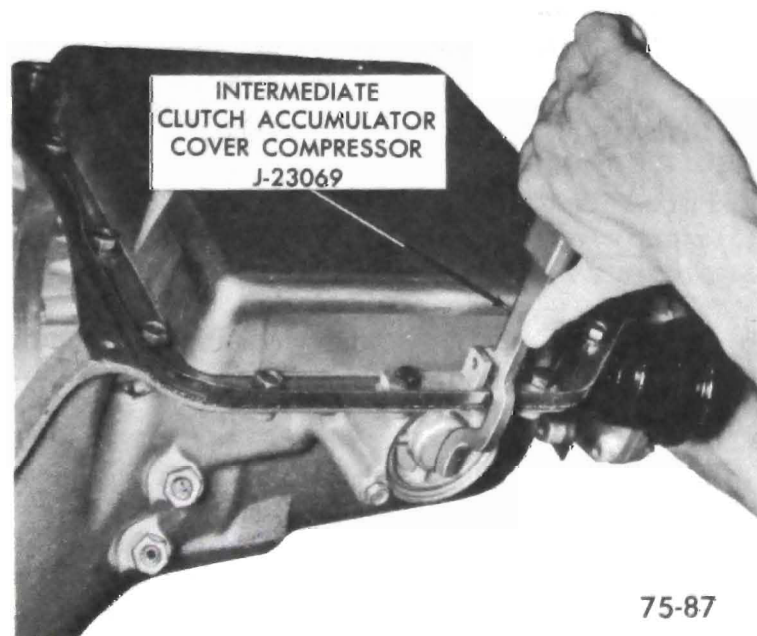

Figure 75-124
1. Install Tool J-23069 to compress intermediate clutch accumulator cover and remove retaining ring. See Figure 75-124.